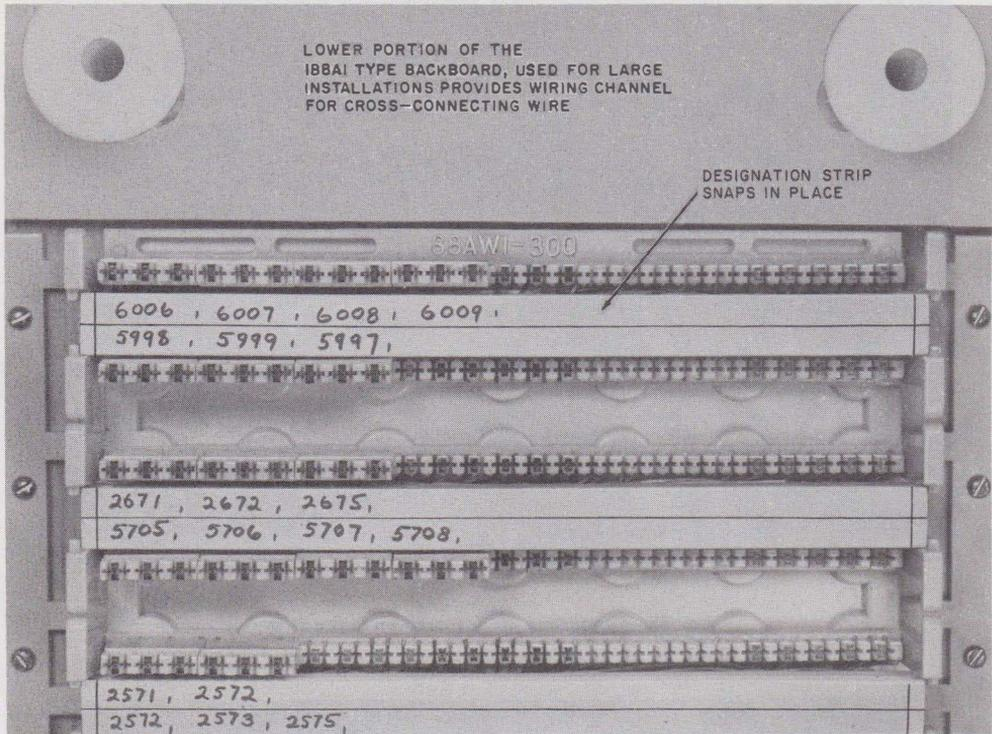

Fig. 20—Marked Designation Strips on Wiring Block
3.18 After all connecting blocks have been seated, snap the appropriately colored designation strip in the wiring block (Fig. 20). Mark the designation as required for later identification of lines or stations.